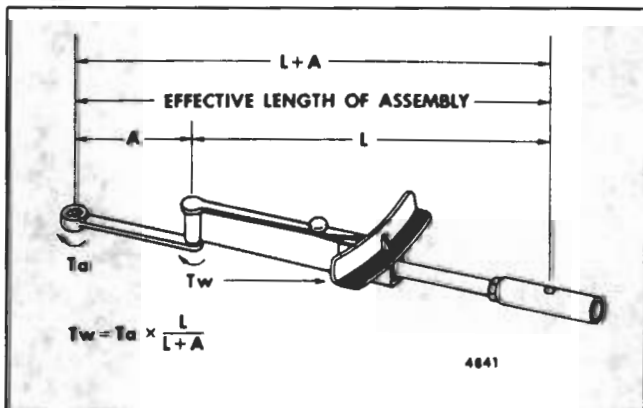

Fig. 10 - Calculating Torque When an Adaptor is Used
(L) (Fig. 10) is 22 inches and the adaptor (A) is 3" long, you should have a reading of 158 lb-ft on the wrench to have the bolt tightened to 180 lb-ft torque.